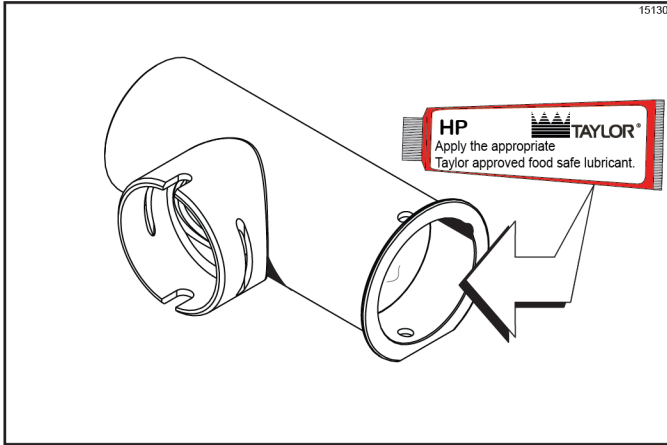

Figure 6-23
3. Apply a thin layer of lubricant to the inside of the pump cylinder at the retaining pin hole end. (See Figure 6-23.)